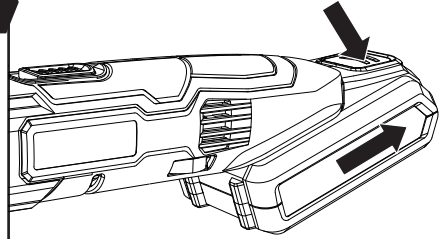

Fig. D1
3. TO REMOVE THE BATTERY PACK (SEE FIG. D1)